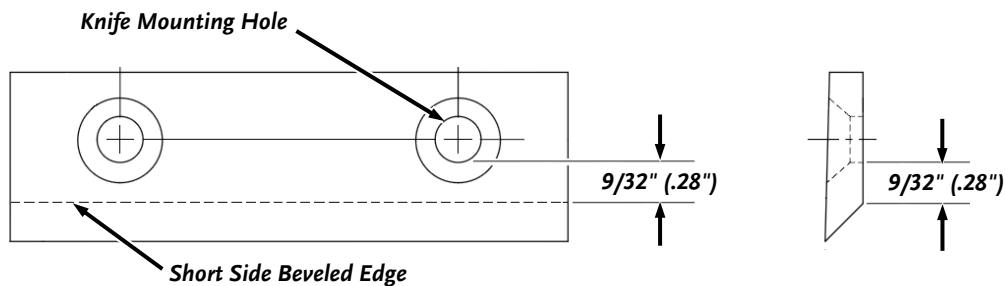

Figure 28: New Knife
- A new Chipper Knife has a  $5/16$ " measurement between the short side bevel edge and the Knife mounting holes (**Figure 28**).